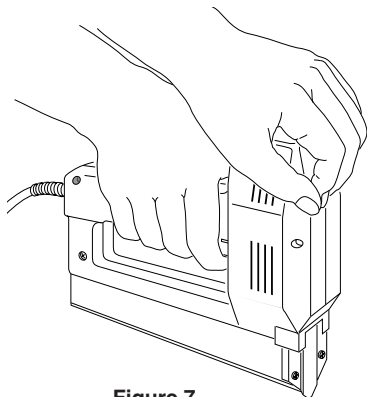

Figure 7
- Place palm of free hand firmly on head of tool (see Figure 7).